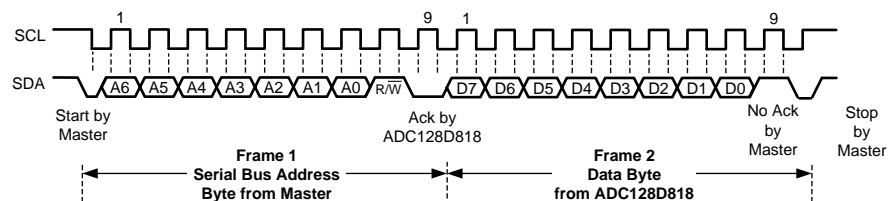
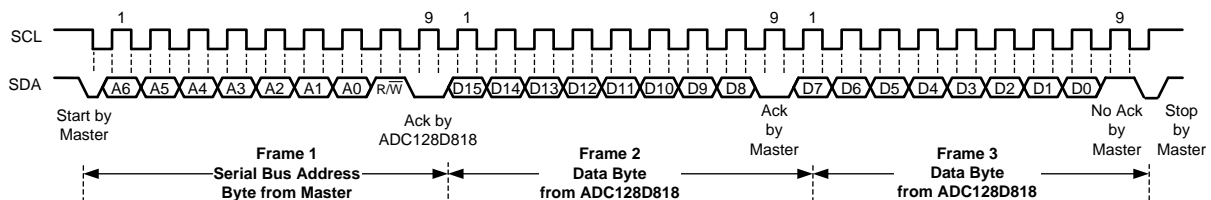

Figure 28. Serial Bus Interface Read Example 1 - Single Byte Read With Preset Internal Address Register
Figure 29. Serial Bus Interface Read Example 2 - Double Byte Read With Preset Internal Address Register
1. If the Register Address is known to be at the desired address, simply read the ADC128D818 with the Serial Bus Address byte, followed by the Data byte read from the ADC128D818. Examples of this type of read can be seen in Figure 28 and Figure 29.